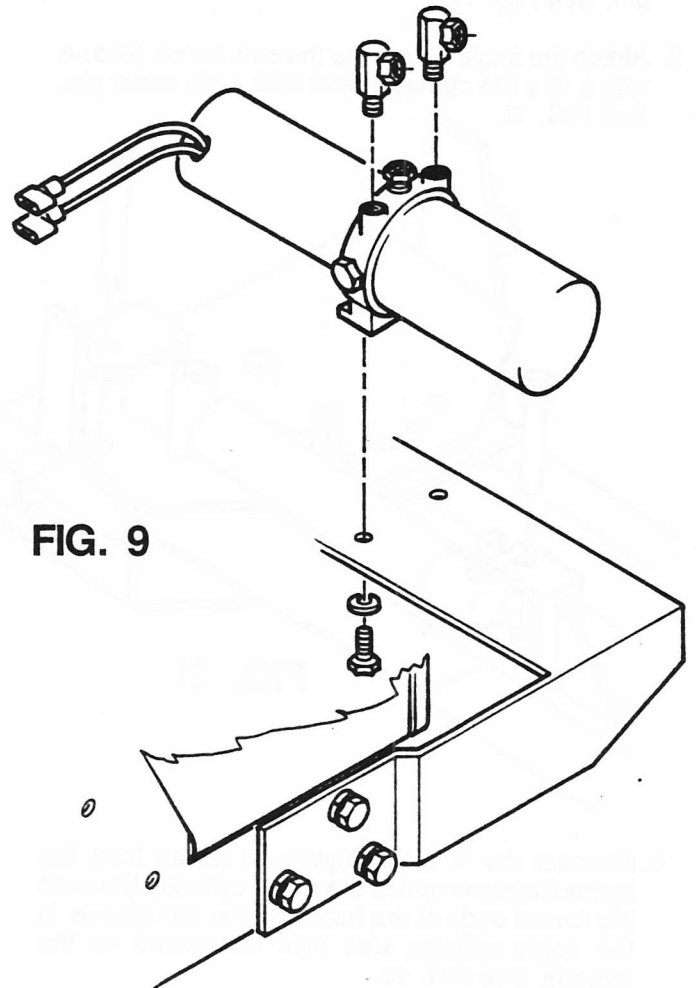

FIG. 9
3. Attach the hydraulic power unit to the mount using (2) $\frac{3}{8}$ -16 x $\frac{3}{4}$ hex hd. capscrews and lockwashers. As shown in FIG. 9.
4. Insert (2) $\frac{7}{16}$ — 20 O.R.B. male x $\frac{1}{4}$ N.P.T. female 90° S.U. into the ports of the hydraulic power unit. As shown in FIG. 9.